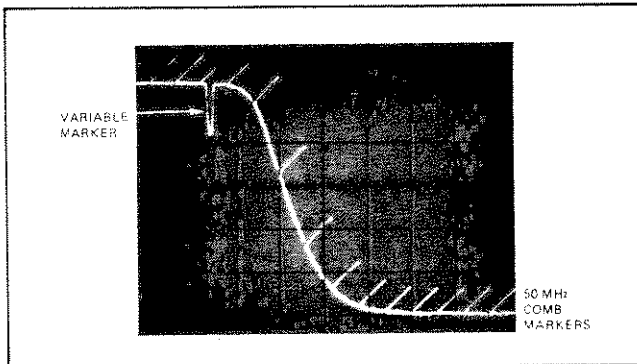

Figure 3-11. Bandpass Filter Measurement Showing Marker Tilting
Marker controls provide control over sweep generator markers that appear on the 560A CRT. If the WILTRON 6600(A) Series sweeper provides the markers, threshold control is provided by the front panel OFF-THRESHOLD control. If the Hewlett-Packard Model 8620 provides the markers, markers appear on screen when the OFF-THRESHOLD control is moved from the OFF (detent) position. In the case of either sweep generator, markers are fixed in amplitude. The THRESHOLD control, when used, determines only the threshold voltage at which internal marker circuitry responds to external marker inputs. The front panel TILT control provides up to plus or minus (\pm) 45 degrees of tilt for displayed markers. This tilting of markers is very helpful in identifying markers where the displayed signal has steep skirts, e. g. measurements of an electronic filter (Figure 3-11). Additionally, when the 6600(A) Series sweeper with its three different types of markers is used, the 560A response is different for each marker-type. This response is described below.
- a. INTENSITY Markers. The 560A responds to intensity markers only in the REAL TIME display mode. Markers appear as an intensified dot; see page 3-5, (9).